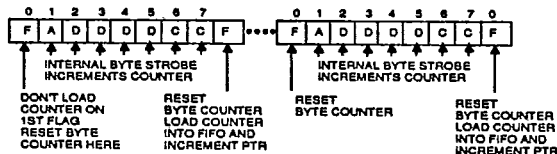

Figure 19. SDLC Byte Counting Detail.
**Write Operation.** When the end of an SDLC frame (EOF) has been received and the FIFO is enabled, the contents of the status and byte-count registers are loaded into the FIFO. The EOF signal is used to increment the FIFO. If the FIFO overflows, the MSB of RR7 (FIFO Overflow) is set to indicate the overflow. This bit and the FIFO control logic is reset by disabling and re-enabling the FIFO control bit (WR15 bit 2). For details of FIFO control timing during an SDLC frame, refer to Figure 19.